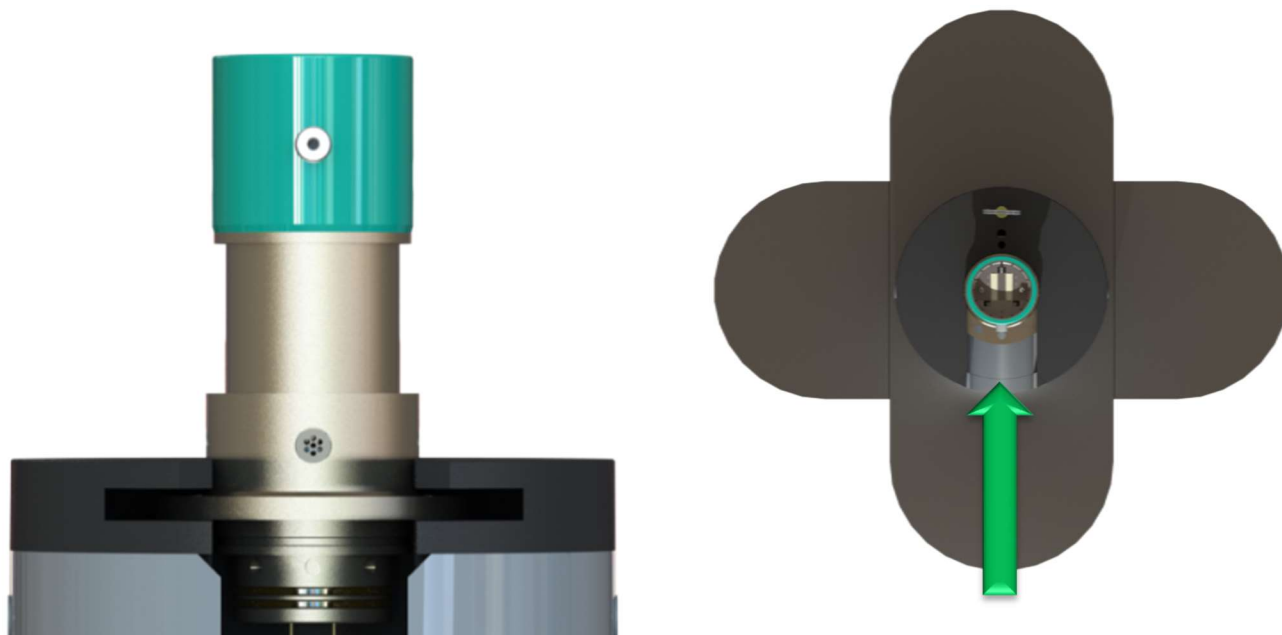

Figure 6: Connector Installation into the Hand-Mate Pedestal PN 1018563
- 6.4.2 To secure a test connector into the hand-mate pedestal PN 1018563, carefully slide the plug connector flange into the pedestal mount, as in Figure 6. Ensure no optics or wiring will be pinched upon installation, and that the connector is oriented such that the key and termination shell will clear the entrance into the fixture.